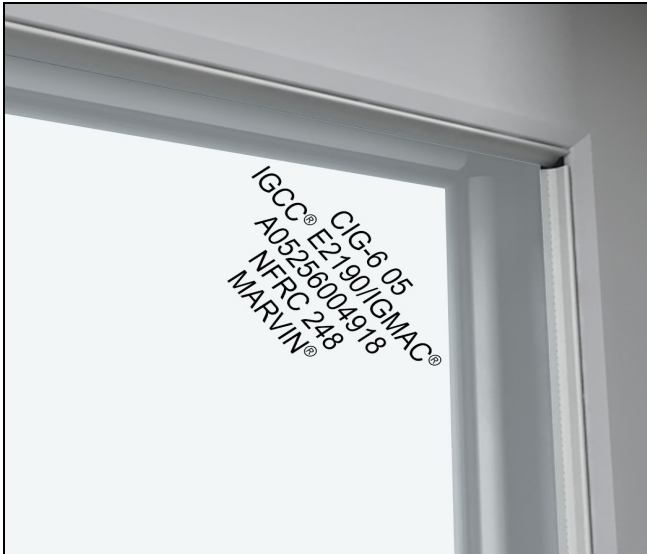

Figure 8
1. Remove the protective packaging from the unit and dispose/recycle properly. Inspect unit for any hidden damage and report immediately to your Marvin representative. Provide the customer service number etched on one of the top corners of the glass. See Figure 8.